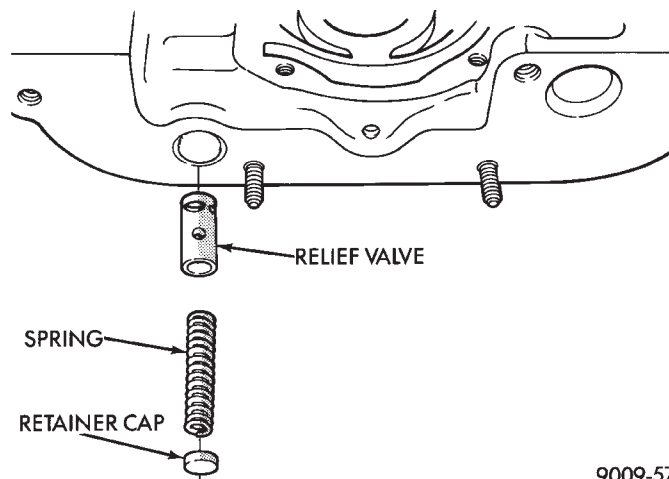

Fig. 69 Oil Pressure Relief Valve
(1) To remove the relief valve, proceed as follows:
(2) Drill a 3.175 mm (1/8 inch) hole into the relief valve retainer cap and insert a self-threading sheet metal screw into cap.
(3) Clamp screw into a vise and while supporting chain case cover (CCC), remove cap by tapping CCC using a soft hammer. Discard retainer cap and remove spring and relief valve (Fig. 69).